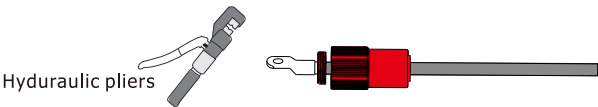

Figure 4.2-3
Step2:Crimp the metal terminal, as shown in Pic 3.5, as shown in Figure 4.2-3.